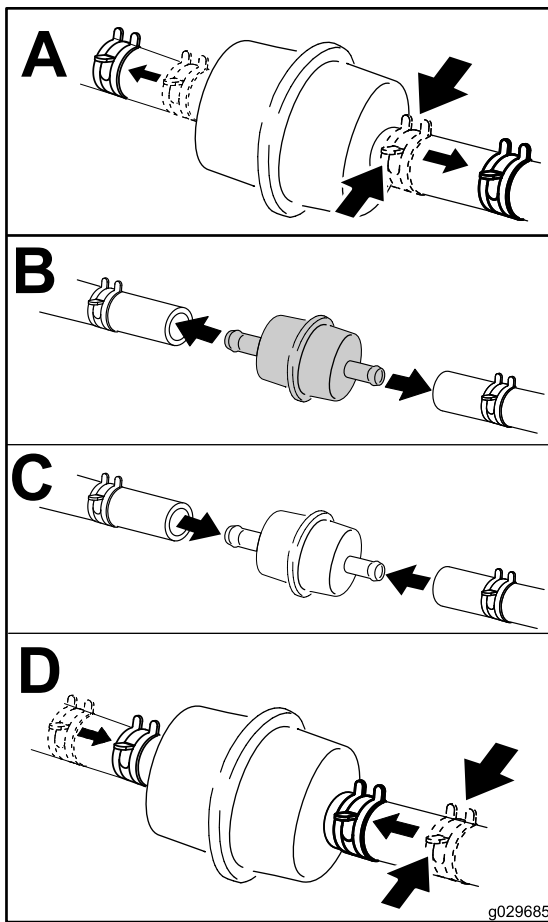

Figure 72
4. Replace the fuel filter (Figure 72).